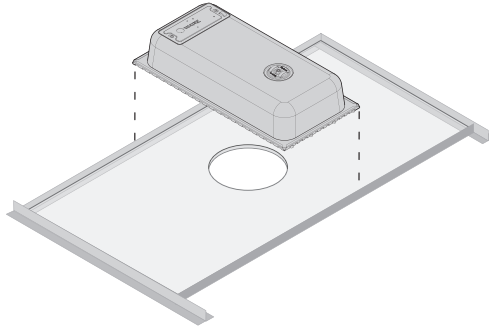

Figure 32. Mounting the CS 120P in a 2 feet x 2 feet (600 mm x 600 mm) Ceiling Grid
- 11. Place the CS 120P into the ceiling grid** — Place the CS 120P over the tile grid so that the CS 120P is safely supported on the two short edges. If the ceiling tile was installed, ensure that the hole in the tile is aligned with the hole in the CS 120P (see figure 32).